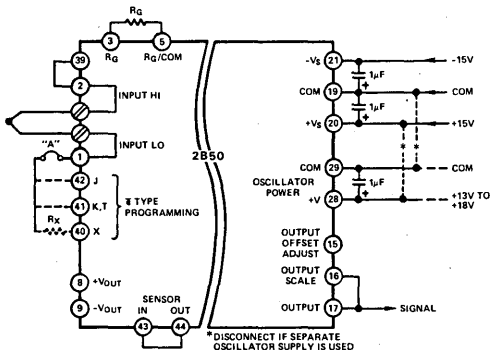

Figure 2. Basic 2B50 Application
Two sets of parallel thermocouple input connections are provided. The thermocouple input may be connected by screw terminals (Input +, Input -) or to terminal pins 1 (-) and 2 (+) in cases where thermocouples are to be remotely terminated. The following sections describe a basic thermocouple application, as well as detail some optional connections to enhance performance in more demanding applications. Jumper A (Figure 2) is used to disconnect cold junction compensation circuitry during offset adjustments.
The gain of the 2B50 is set by a user-supplied resistor ( $R_G$ ) connected as shown in Figure 2. Gain will normally be selected so that the maximum output of the signal source will result in a plus full scale output swing. The resistor value required is determined by the equation:  $R_G = 200\text{k}\Omega / (G - 1)$ .
The connections shown in Figure 2 are common to most applications using the 2B50, and, in many cases, will be all that is required.
2. Disconnect cold junction compensation circuitry by removing Jumper "A" (Figure 2).